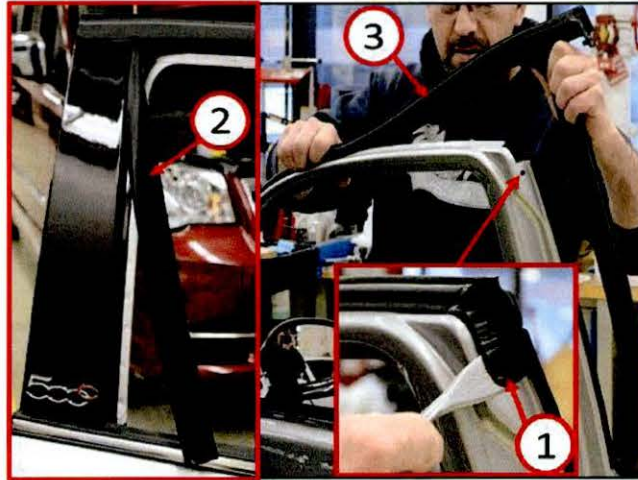

Fig. 3 Glass Run Weatherstrip Removal
4. Remove the upper rear push clip (1) and glass channel from behind the door rear applique (2) to remove the rear section (3) of the glass weatherstrip run (Fig. 3).